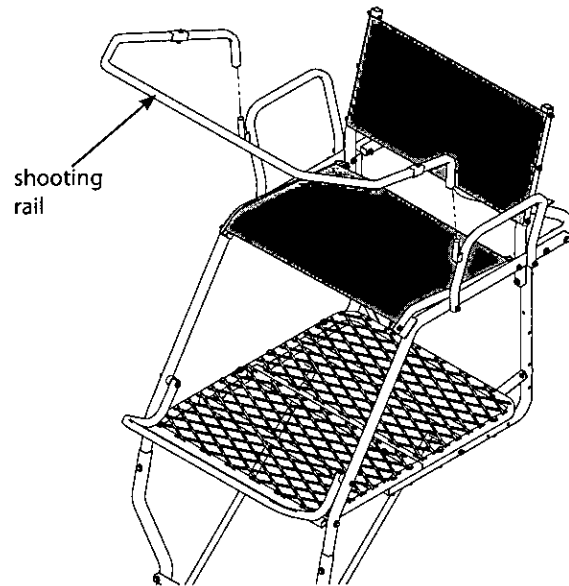

Figure 13
18.a. Attach the removable shooting rail by setting rail down over studs provided on armrests **SEE FIGURE 13. Lubrication is recommended to prevent binding and noise.**
b. Attach the (2) provided 9" and (1) provided 54" camo foam pads to the armrests and shooting rail by wrapping around tubing and attaching Velcro together.